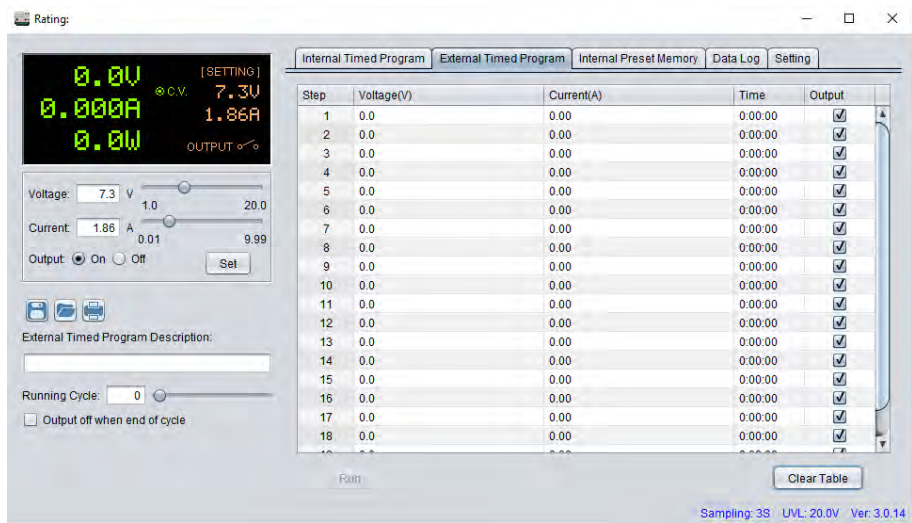

Figure 7.20
1. Click on the "External Timed Program" tab. See Figure 7.20